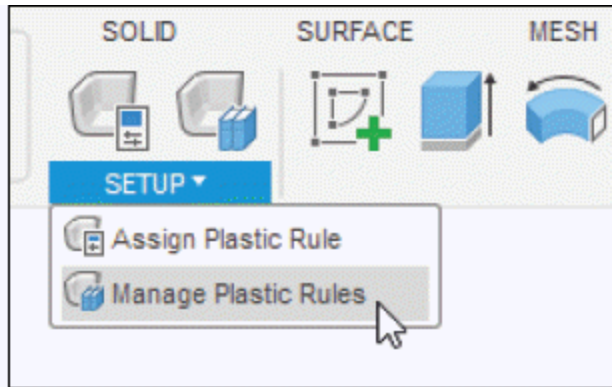

Figure-140. Manage Plastic Rules tool
- Click on the **Manage Plastic Rules** tool from **SETUP** panel in the **PLASTIC** tab of the **Toolbar**; refer to Figure-140. The **MANAGE PLASTIC RULES** dialog box will be